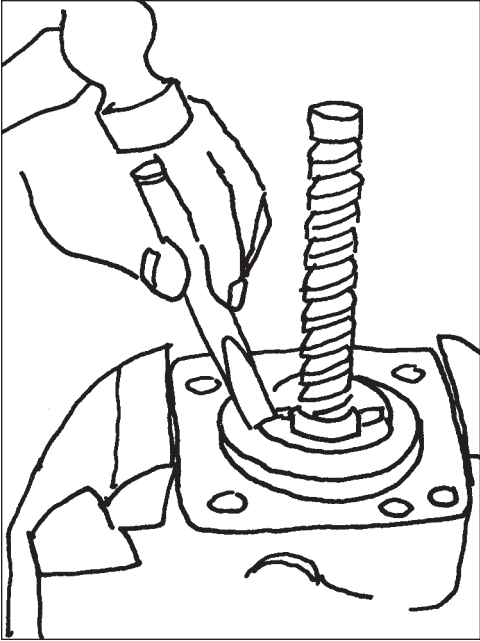

Figure 64
- Using a hammer and chisel, split the star nut at the grooves in the shaft retaining nut. Discard the star nut (Figure 64).